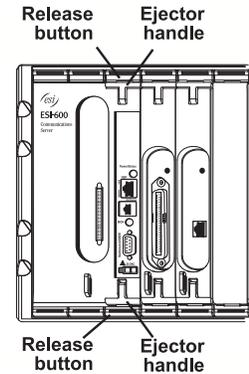

Fig. MM-1
2. Press the **release buttons** (**Fig. MM-1**) on the top and bottom of the faceplate to release the **ejector handles**.
3. Pull on the **ejector handles** (**Fig. MM-1**) to pull the main board from the cabinet.